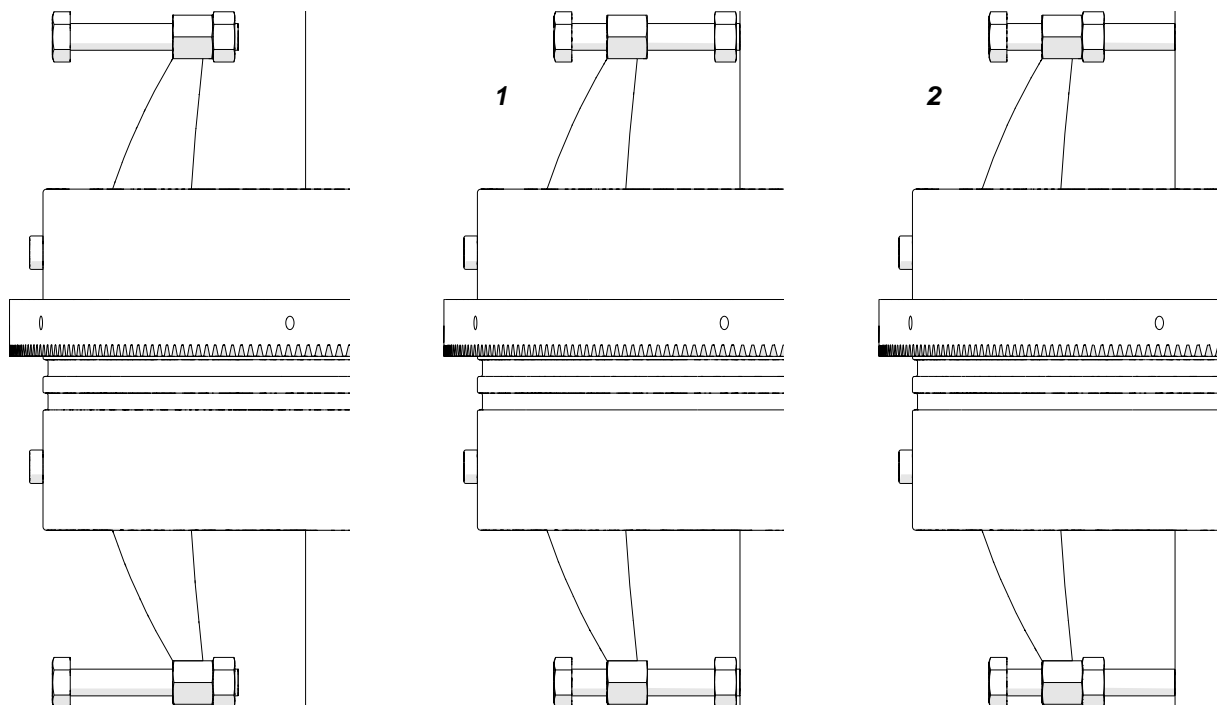

Fig. 5. Attaching the ring track to the workpiece
Use the 13 mm flat wrench to adjust the bolts (or the screws by hand) until they are in contact with the workpiece (1, Fig. 5). Adjust each support equally to make the track concentric to the workpiece. Lock the supports with the nuts (2) or levers.